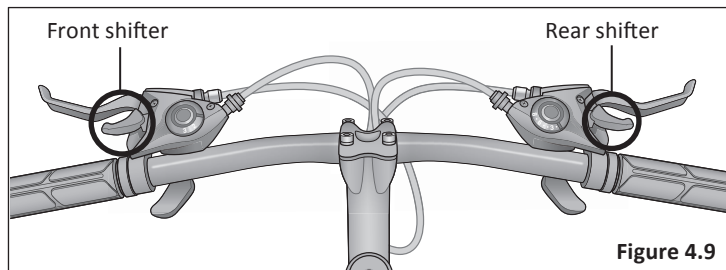

Figure 4.9
- ➊ Begin by shifting the rear shifter to largest number indicated and place the chain on the smallest sprocket. **Figure 4.9**